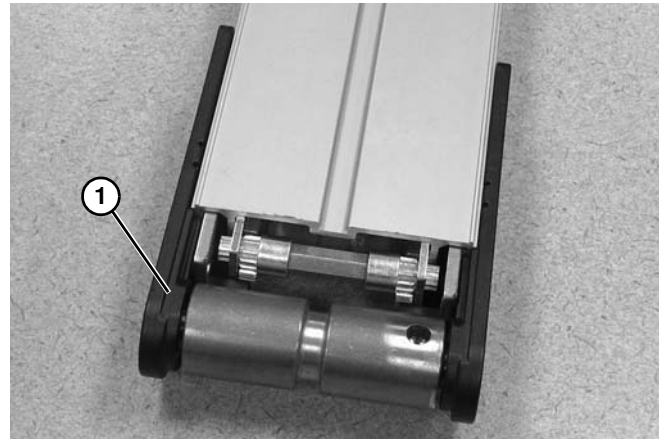

Figure 99
11. Reinstall idler tail by sliding tail assembly (**Figure 99, item 1**) fully back onto conveyor frame.